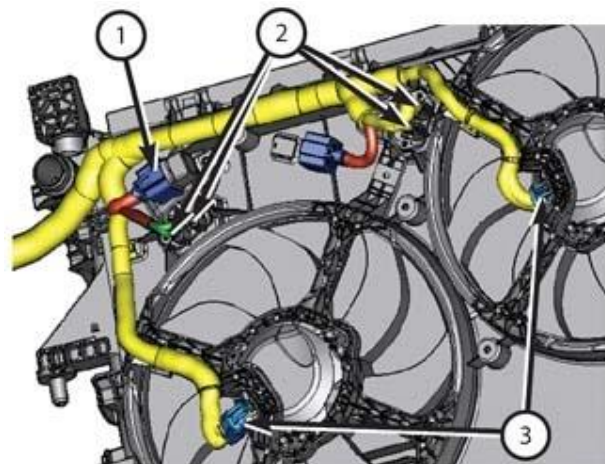

Figure 6 – Wire Harness Connectors
- From above or below as necessary, disconnect the wire harness connectors from the cooling fan relays (1), the resistors (2) and the cooling fan motors (3) (Figure 6).
- From below or above as necessary, connect the wire harness connectors to the cooling fan relays (1), the resistors (2) and the cooling fan motors (3) (Figure 6).